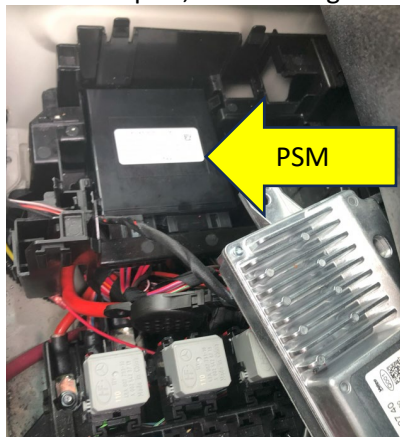
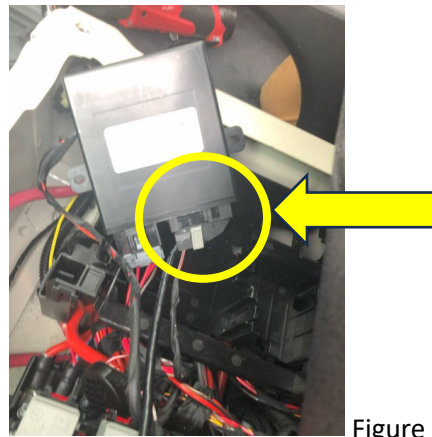
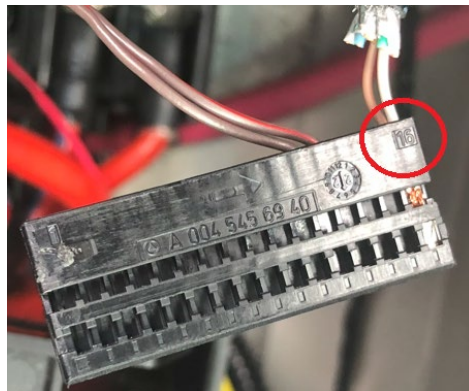
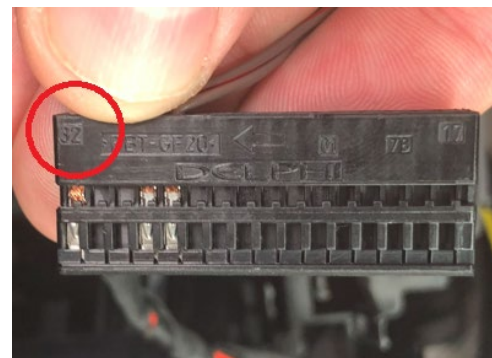

Figure 3A
Figure 3B
Figure 4B, Pin #16
Figure 4C, Pin #32
- Remove the PSM shown in Figure 3A, which is also secured with snap-in clips and remove the PSM to access the connector pins, shown in figure 3B.
- Disconnect the wiring harness, shown in figure 3B & 4A from the PSM. Insert wires from the communication cable, part 5177529 as shown. Figure 4B, Pin 16, connect to white with brown stripe CAN wire from Wakespeed or RJ45 Pin 2. Figure 4C, Pin 32, connect to brown CAN wire from Wakespeed or RJ45 Pin 1 **NOTE: The cable provided with the parts kit will be loomed.**